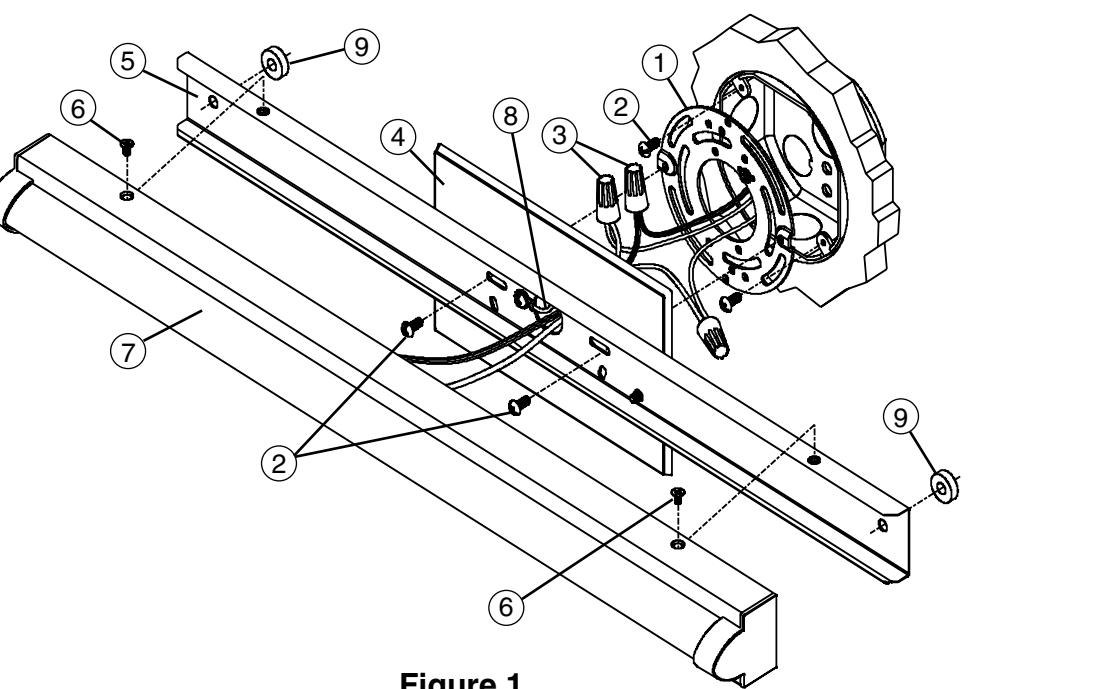
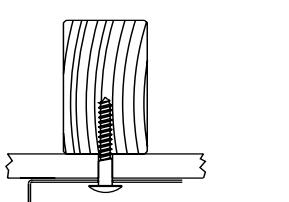

Figure 1
Figure 3
- 4a. Attach Mounting Plate (1) to junction box using 1/2" long screws (2) so that two threaded holes align with slots in the Backplate (5) for horizontal or vertical installation. See Fig. 1.
- 5a. To support longer length fixtures, hold the Backplate (5) against the mounting surface in the desired location and mark the location of the 1/4" outer mounting holes. Drill 1/8" Ø pilot hole at each location.
- 6a. If drill encounters a stud or joist, use wood screw(s) (not supplied) and Spacers (9) to secure the Backplate Assembly (5) after completing wire connections. See Fig. 3.
- 4b. If codes permit and there is no junction box, the fixture can be installed without the Canopy (4) by removing the screws holding the Canopy (4) to the Backplate (5) and setting the Canopy (4) aside.
- 5b. Turn the power off at the circuit breaker box. Position the Backplate (5) against the mounting surface, centered over the supply wire entry location. Mark the location of the 1/4" Ø outer mounting holes then drill 1/8" Ø pilot holes at each location.
- 6b. If drill encounters a stud or joist, use wood screw(s) (not supplied) to secure the Backplate (5) after completing wire connections. See Fig. 3.
9b. Insert wood screws or the pre-installed toggle nuts and bolts into the previously drilled mounting holes. Hold the fixture level, tighten the screws or toggle bolts until the fixture is secure. See Fig. 1.
6b. Si el taladro encuentra un corchete o vigueta, use tornillos de madera (no incluidos) para fijar la placa posterior (5) después de completar las conexiones de los cables. Consulte la Fig. 3.
9b. Inserte los tornillos de madera o las tuercas y los pernos acodados preinstalados en los orificios de montaje previamente perforados. Mantenga el nivel del montaje, ajuste los tornillos o pernos acodados hasta que el montaje esté asegurado. Consulte la Fig. 1.